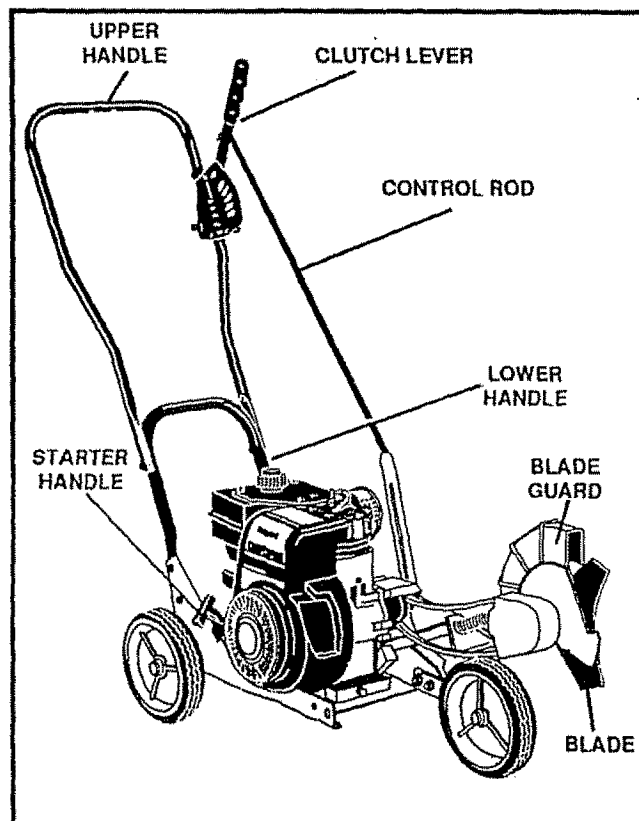

FIG. 1
- Figure 1 shows the edger completely assembled.
- Attach the front wheel, as shown, to the outside of the edger (See Fig 1) with a 3/8-16 x 1.390 inch shoulder bolt and 3/8-16 hex head jam nut (found in parts bag).